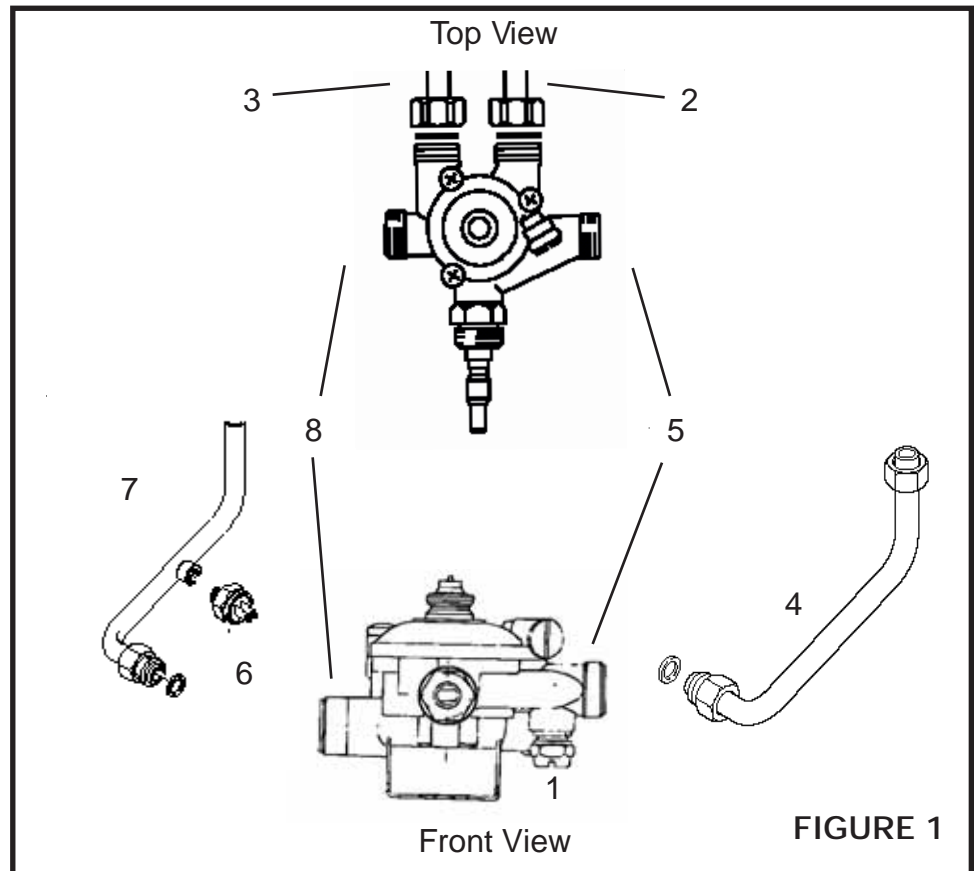

Figure 3
1. Insert venturi (B) with o-ring end first into right side of plastic water valve cold water outlet (J). Push in gently to make sure it is seated in place.
2. Attach plastic water valve (A) to gas valve using set screws described in step B1, making sure water valve top is flush to bottom of gas valve, begin to tighten evenly but leave screws a little loose for now. We suggest use of an anti seize compound on screw threads. Cold inlet and hot outlet connections should be facing the back.
3. Place rubber o-ring (E) onto end of new cold water pipe (D), insert the other end of the new cold water pipe into inlet of heat exchanger and loosely tighten retaining nut. Insert o-ring end into right side of water valve (J) and push in firmly. Insert retaining pin (C) from top into two holes to hold pipe in water valve. Retaining pin should go all the way in for connection to be correct. Tighten retaining nut on inlet pipe to heat exchanger.
4. The new hot water outlet pipe (F) now needs to be installed. The end with the threaded fitting needs to be inserted into bracket on back of water valve (Figure 3). From the front, gently push towards the wall on bracket end and insert threaded fitting into bracket. Using the small fiber washer (G), connect the other end of the hot water pipe to the heat exchanger outlet and tighten.